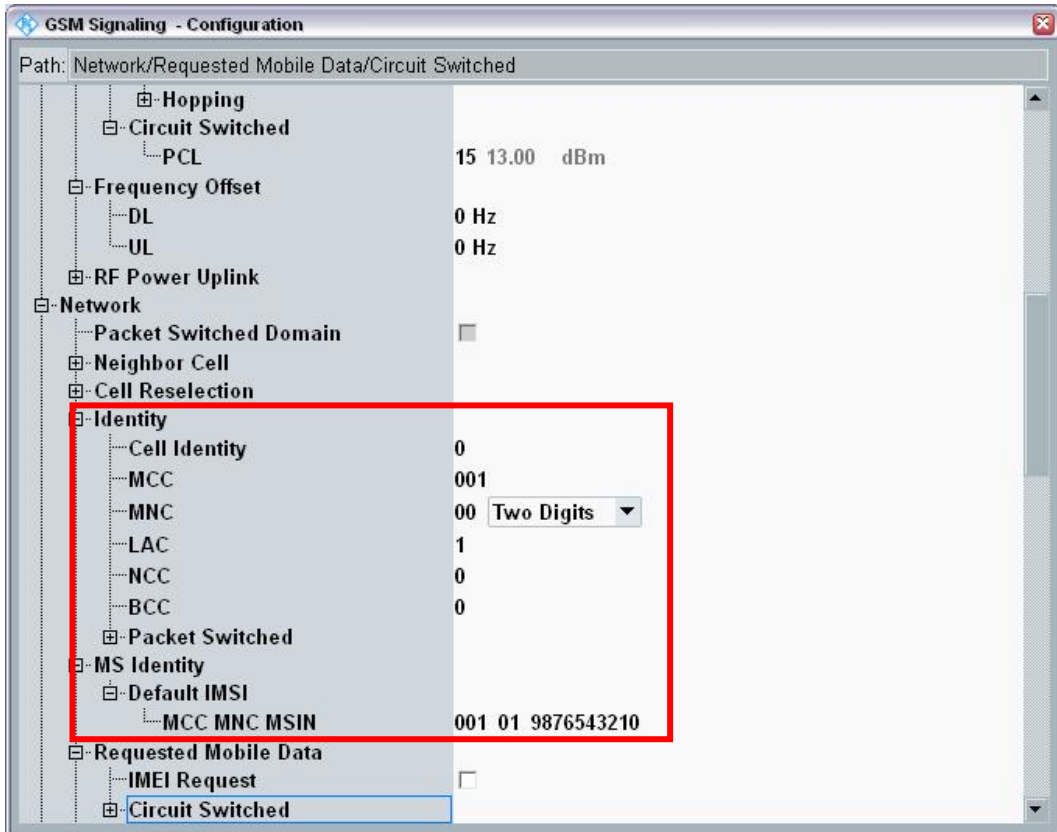

Figure 34: GSM Network Identity
6. The proper values for **Network Identity** → **MCC/MNC** (Figure 34: GSM Network Identity) depend on the SIM card that is used. The Rohde & Schwarz test SIM card uses **MCC 001** and **MNC 01**.